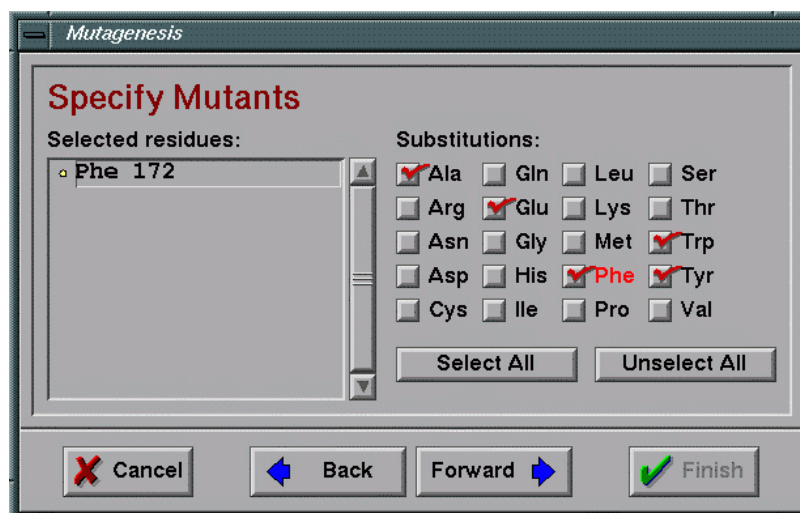

Fig 12.10 Window for specification of requested substitutions
- 7) Specify the substitutions you want to construct (**Fig 12.10**). You can choose any of 20 amino acids by checking their buttons on the right side of the window. Requested substitutions will be automatically introduced in the structure of the protein. Separate subproject will be created for every mutation and process of homology modelling using MODELLER will automatically proceed.